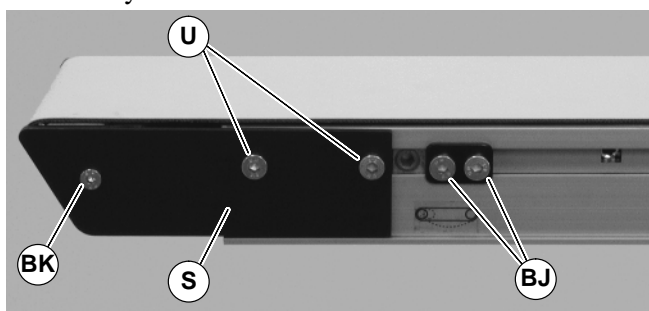

Figure 48
1. On both sides of conveyor, use a 4 mm hex-key wrench to loosen cam fastening screws (BJ of Figure 48) and slide cam assemblies toward the center of the conveyor.
5. After replacing bearings, re-install head plate (S of Figure 48). Use a 3 mm hex-key wrench to tighten one (1) fastening screw (BK) to 3.4 Nm. Leave two (2) fastening screws (U) loose for belt tensioning.